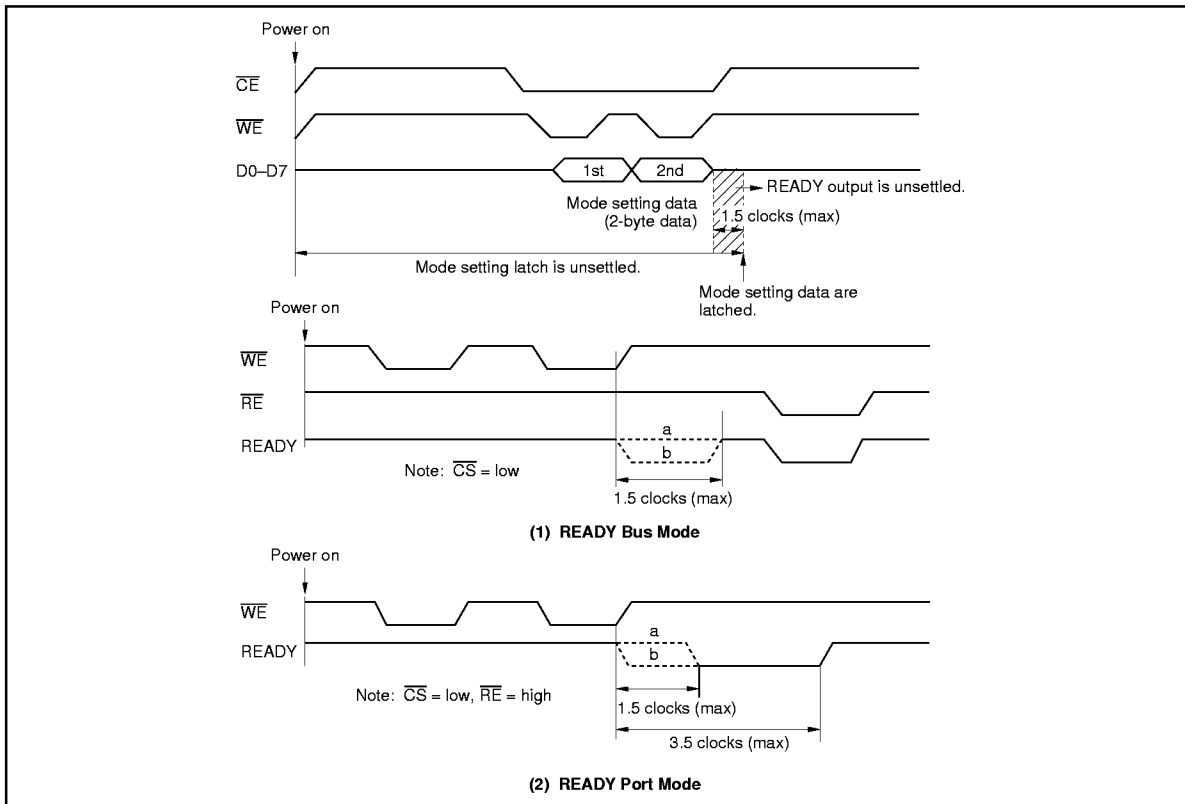

Figure 20 READY Output According to Modes
However, if you input SYNC before mode setting, waveform will be determined; when you choose READY bus mode, (1) a in Figure 20 will be output, and when you choose READY port mode, (2) a will be output. The figures can be applied both to HD61604 and HD61605.